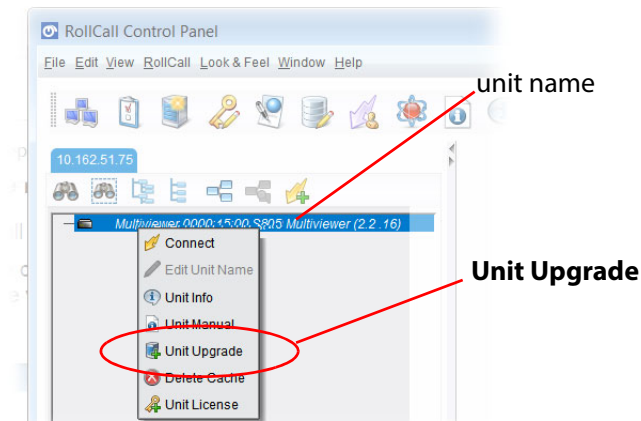

Fig. 8-8: Right-Click Menu
- 1 Right-click on the connected unit name in the RollCall Control Panel window. See Figure 8-8.